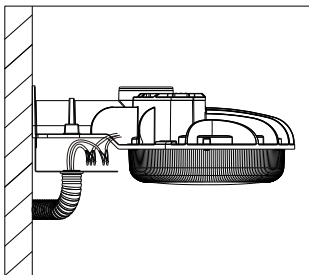

Figure 8
5. Thread the cable to the hole on the cover plate, tighten conduit tube, complete the wiring (Figure 8)